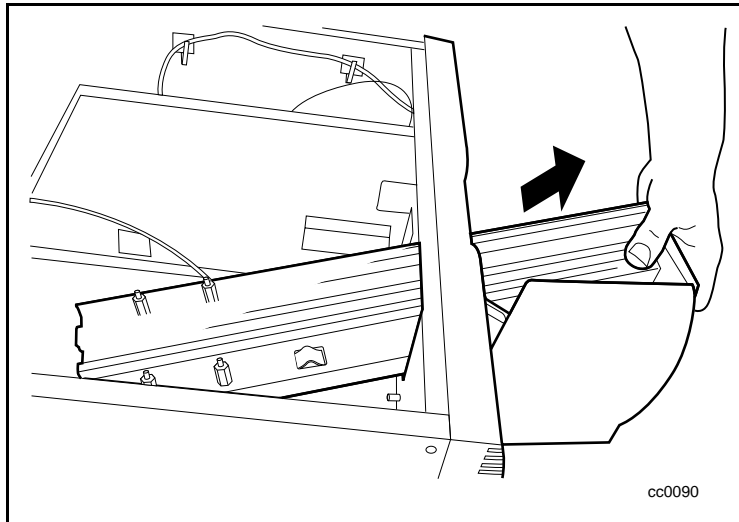

Figure 5-20. Removing the magazine guide
7. Lift the magazine guide out through the front door (see Figure 5-20).
1. Place the new magazine guide into the Library (see Figure 5-20).